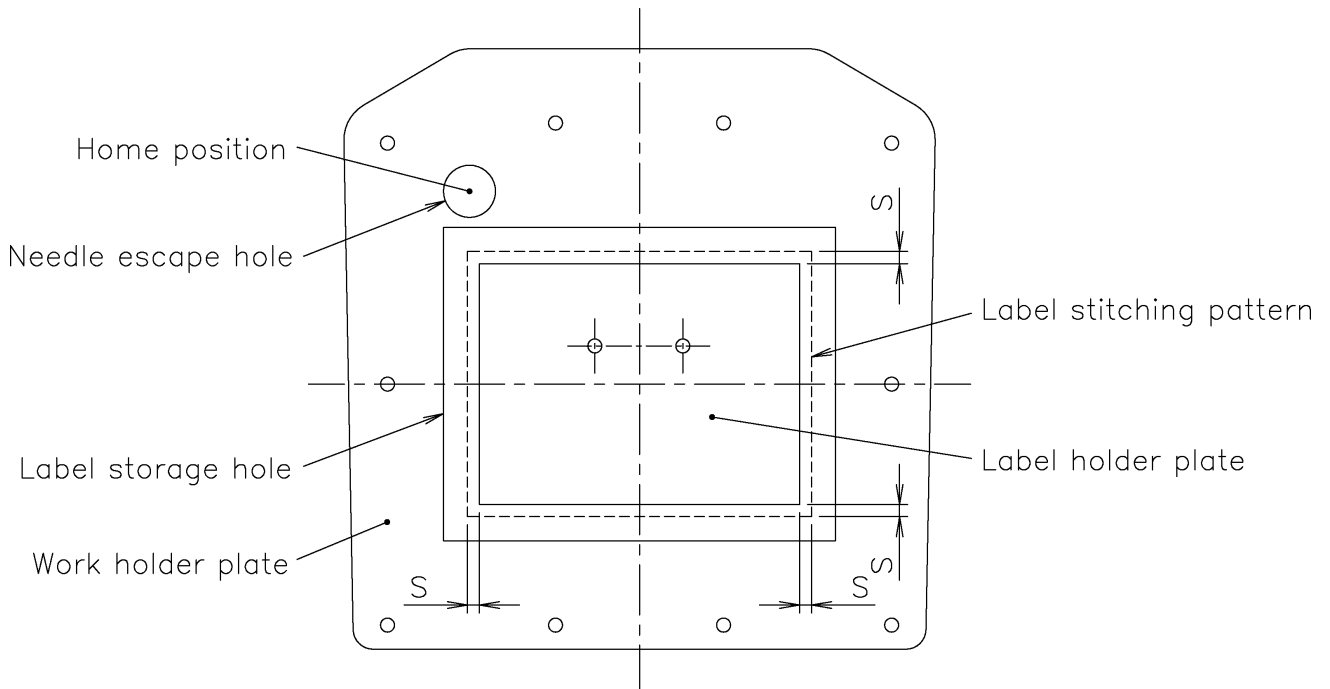

Fig. 2
- (2) As shown in Fig. 2 on the next page, mark the label holder to indicate the size obtained by subtracting the holder amount S from the stitching pattern position of the label to be sewn on. (At this time, the holder amount S is set to the size of the needle or more. If set too large, the stitches may miss the material.)
- (3) Cut the plate along the marked lines using a cutter knife, fret saw or file, etc.
- (3) Depress the [Black] side of the 2-pedal foot switch, and lower the work holder.
- (4) After placing a label under the label holder plate, depress the 1-pedal foot switch, and lower the label holder. Check that the label is pressed at the correct position.
- (5) Make marks at the moved home position and at the four corners of the label.
- (6) Raise the label holder and work holder, and remove the work holder plate.
- (7) As shown in Fig. 2, mark an escape hole for a  $\phi 10$  or more needle at the home position, and mark lines connecting the four corners of label.
- (8) Cut out the plate along the marked lines using a cutter knife, fret saw or file, etc.